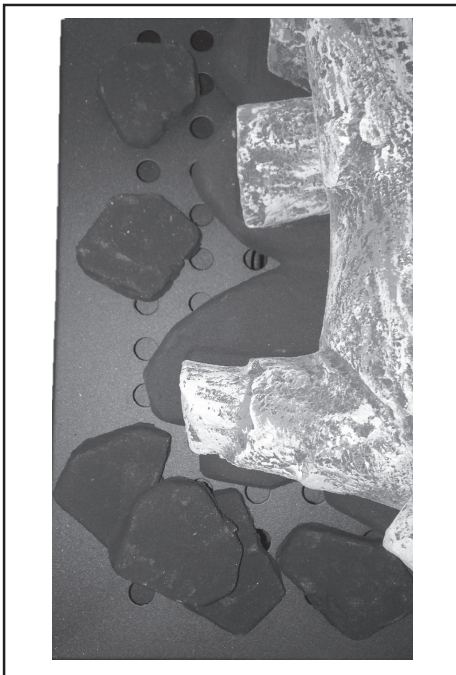

Fig. 19
**19.** Place Six of the loose black pebbles as shown in fig.19 to the side of the LHS ceramic base. Four towards the front and Two along the rear side.